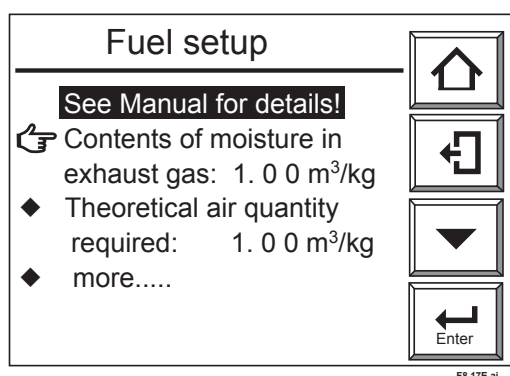
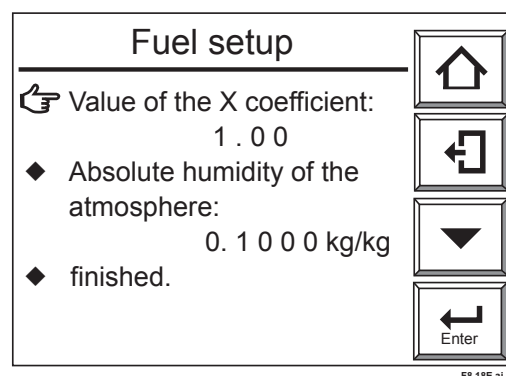

Figure 8.17 Fuel Setup
Figure 8.18 Fuel Setup
- (1) Press the [Setup] key in the Basic panel display to display the Execution/Setup display.
- (2) Select "Commissioning" in the Execution/Setup display. The Commissioning (Setup) display then appears.
- (3) Select "Others" in that display and then the Fuel setup shown in Figure 8.17.
- (4) Choose the "Theoretical air quantity required" and the "Contents of moisture in exhaust gas" in turn. The numeric-data entry display then appears. Enter numeric data using the numeric keys.
- (5) Choose "more" in the Fuel setup display. The Fuel setup shown in Figure 8.18 then appears.
- (6) Set the numeric data to the "Value of the X coefficient" and then to the "Absolute humidity of the atmosphere".
- (7) Choose "finished" to return to the display shown in Figure 8.17.